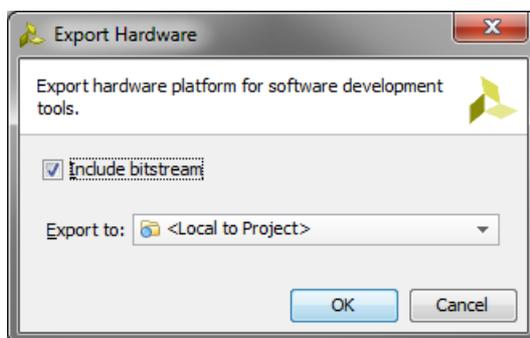

Figure 2.28: Export Hardware for SDK
- (t) The *Export Hardware for SDK* dialogue window will open. Ensure that the option to **Include bitstream** is selected, as in Figure 2.28, and Click **OK**.